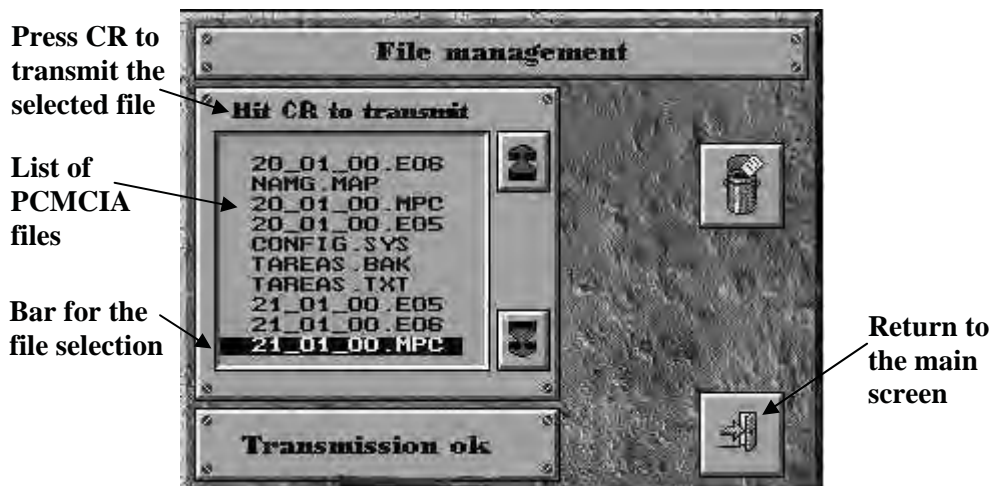

Figure 49.- "Files management" screen
<Files management> screen appears (Figure 49) where saved files on PCMCIA are shown.
- Select a file to transmit on "Files management" screen (Figure 49) of GECOR8 and press **CR**.